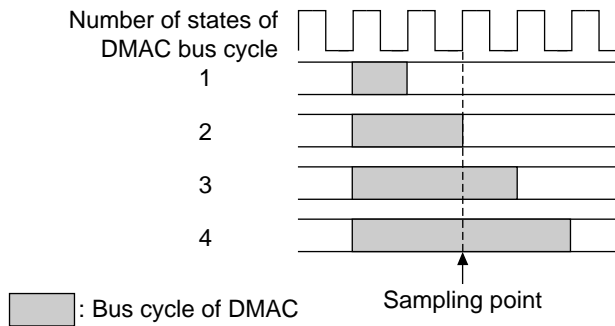

Figure 9.16 Sampling Points of DREQ
As shown in Figure 9.16, sampling of $\overline{\text{DREQ}}$ is carried out immediately before the leading edge of the third-state clock (CK) after completion of the bus cycle preceding the DMA bus cycle where DACK is output.